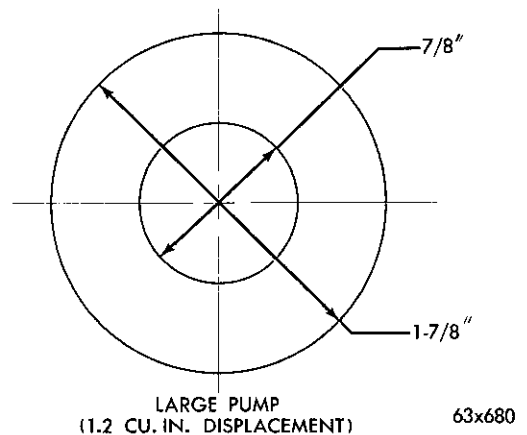

Fig. 18—Slipper Retaining Washer Tool Dimensions
(14) Using a washer of the dimensions shown in Figure 18 drop it over the pulley end of the shaft.